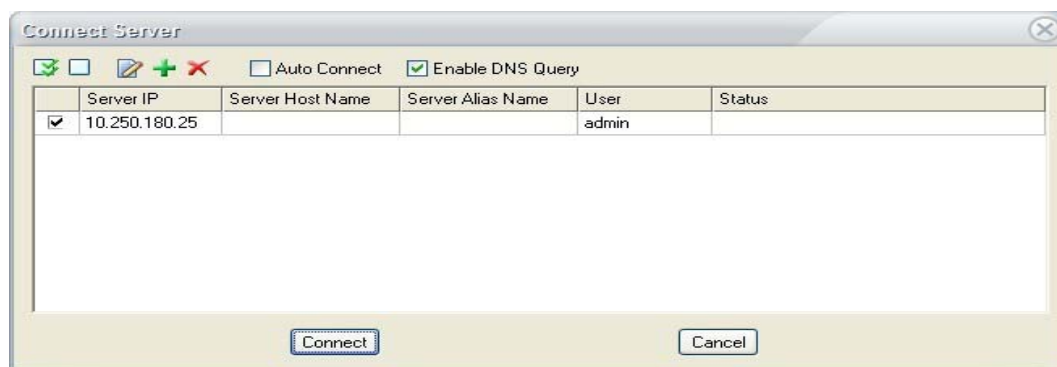

Figure 4-19: Connect Server screen
- 1) Select **Connect> Server....** The Connect Server screen appears. See Figure 4-19.